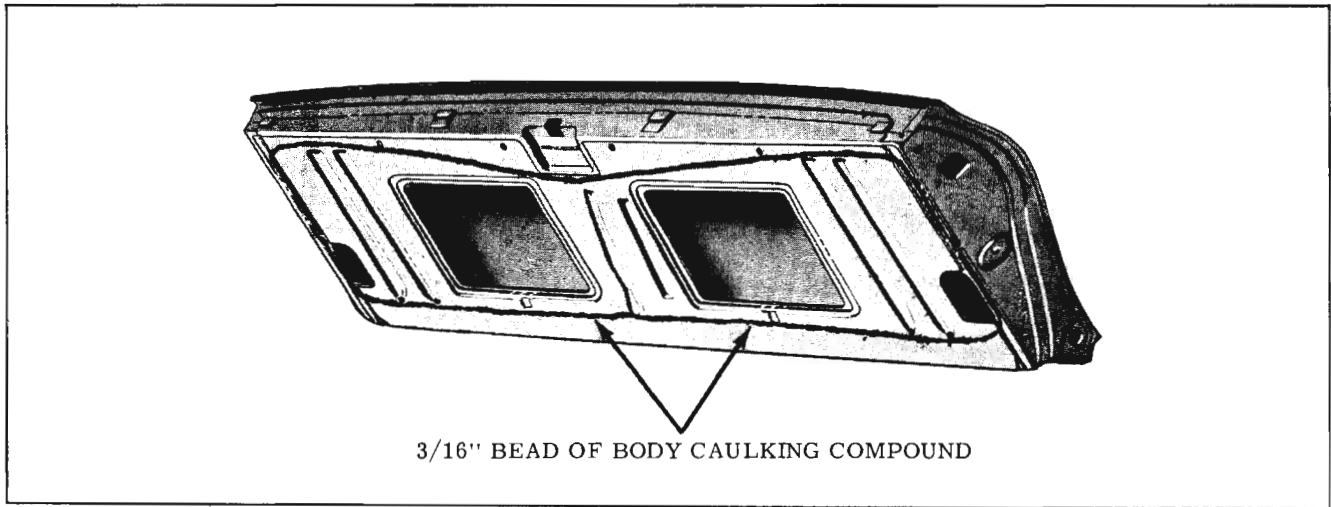

Fig. 16-203 Water Deflector Sealing
2. Carefully disengage deflector along top and sides inside cemented edge of deflector. (Fig. 16-203)
2. Apply body caulking as shown in Fig. 16-203, properly position water deflector and press firmly to obtain a good bond and seal.
2. Apply a bead of body caulking compound (approximately 3/16" diameter) to tail gate inner panel as indicated in Fig. 16-203.